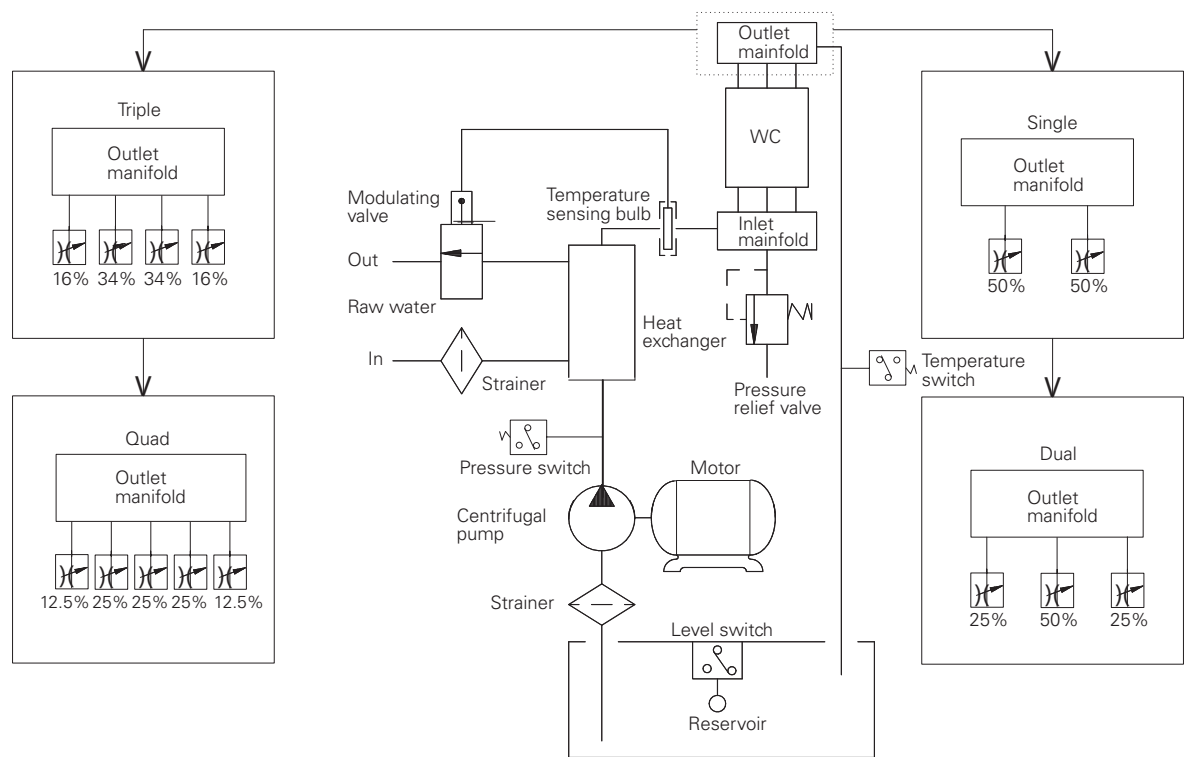

Figure 4
2.4.9 Figure 4 illustrates a typical closed loop liquid to liquid coolant system. The heat exchanger and temperature control would be replaced with a radiator, fan and motor in a liquid to air system.